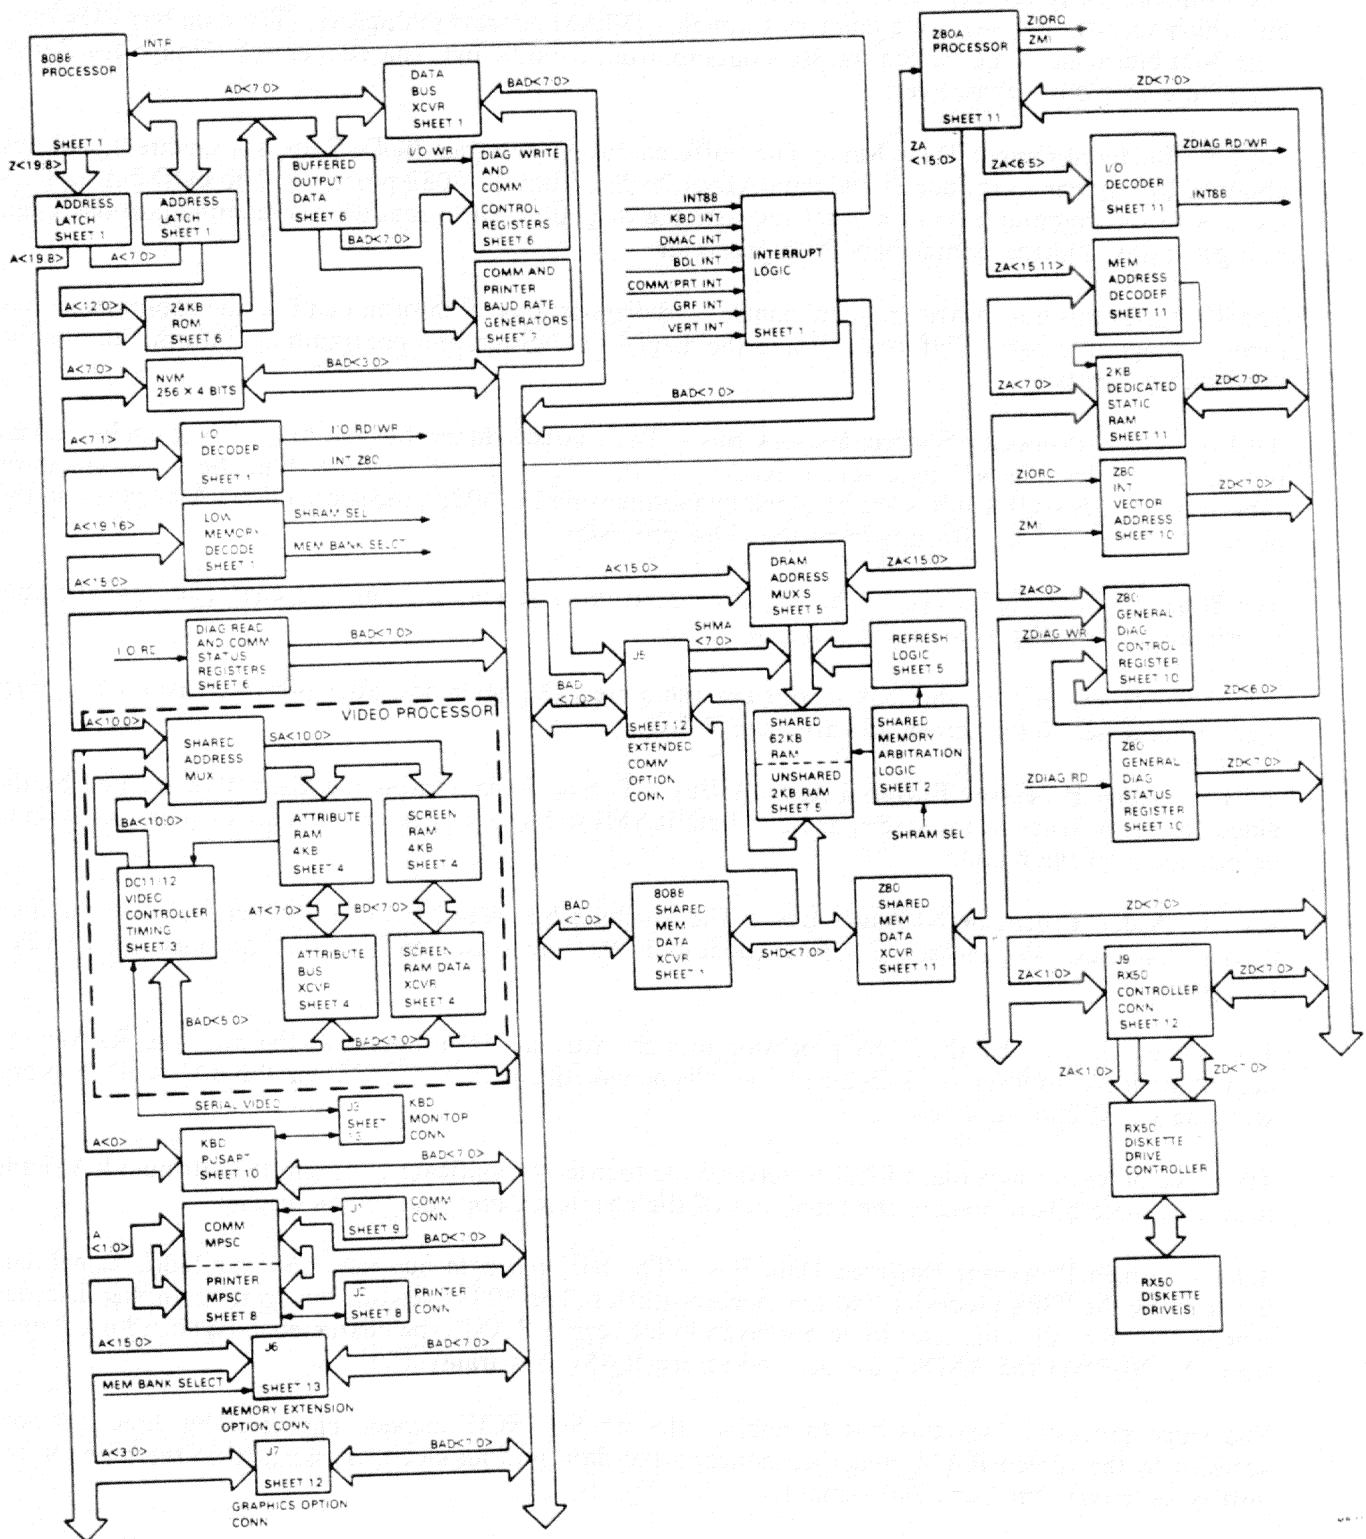

Figure 4-3 System Module Address and Data Buses
The system module has two primary address and data buses, one for each of the 8088 and Z80A processors over which they operate and transfer data to/from their supporting logic, I/O devices, and the shared memory. The system module also contains a number of secondary address and data buses. These secondary buses transfer data between the primary address and data buses and the video processor or shared memory logic. Figure 4-3 shows the primary and secondary address and data buses and their relation to the main logic elements on the system module.
4.4.2.4 RX50 Controller Clock Logic – The RX50 controller logic consists of a 3:1 frequency divider and a 4-bit synchronous binary counter (Figure 4-3). The input to the 3:1 frequency divider is the 24 MHz master clock. The 8 MHz output of the 3:1 frequency divider is divided into 4, 2, and 1 MHz, and 500 kHz clock pulses by the synchronous binary counter. The 8, 4, 2, and 1 MHz and 500 kHz clock pulses are used to synchronize various logic functions of the RX50 controller.